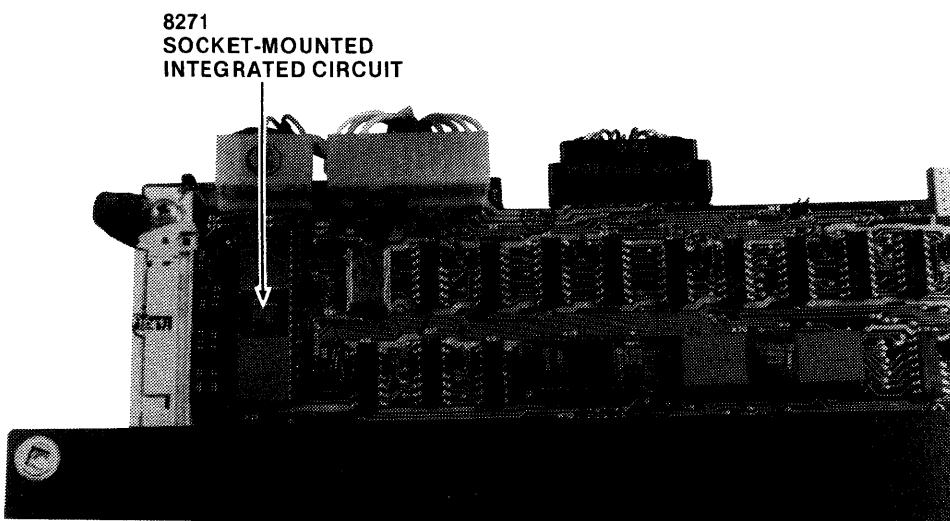

Figure 4-21. MDS-220 Edge Connectors and
16. Install the 8271 IC (Flexible Disk Controller Chip) in socket location A1 on the IOC board, as shown in Figure 4-21. Check the chip's orientation to make sure that pin 1 is in the upper left-hand corner.